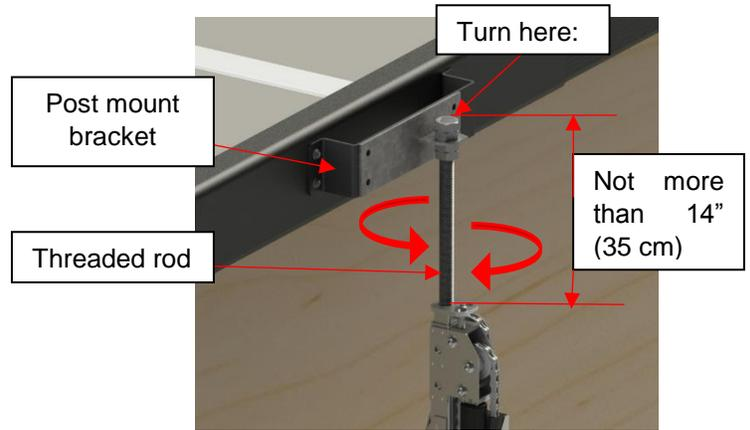

Figure 95
- 15) The jack adapter located at the top of the jack can be adjusted by turning the large threaded rod. Adjust the height so that they match the cover mount bracket holes. Use the adjustable wrench 15/16" (24 mm) head. Repeat this step for all four jacks (Figure 95).
- ♦ The threaded rod must not be unscrewed more than **14 inches (35 cm)**. (Measure the length from the top of the threaded rod nut to the top of the bottom nut (Figure 95).)